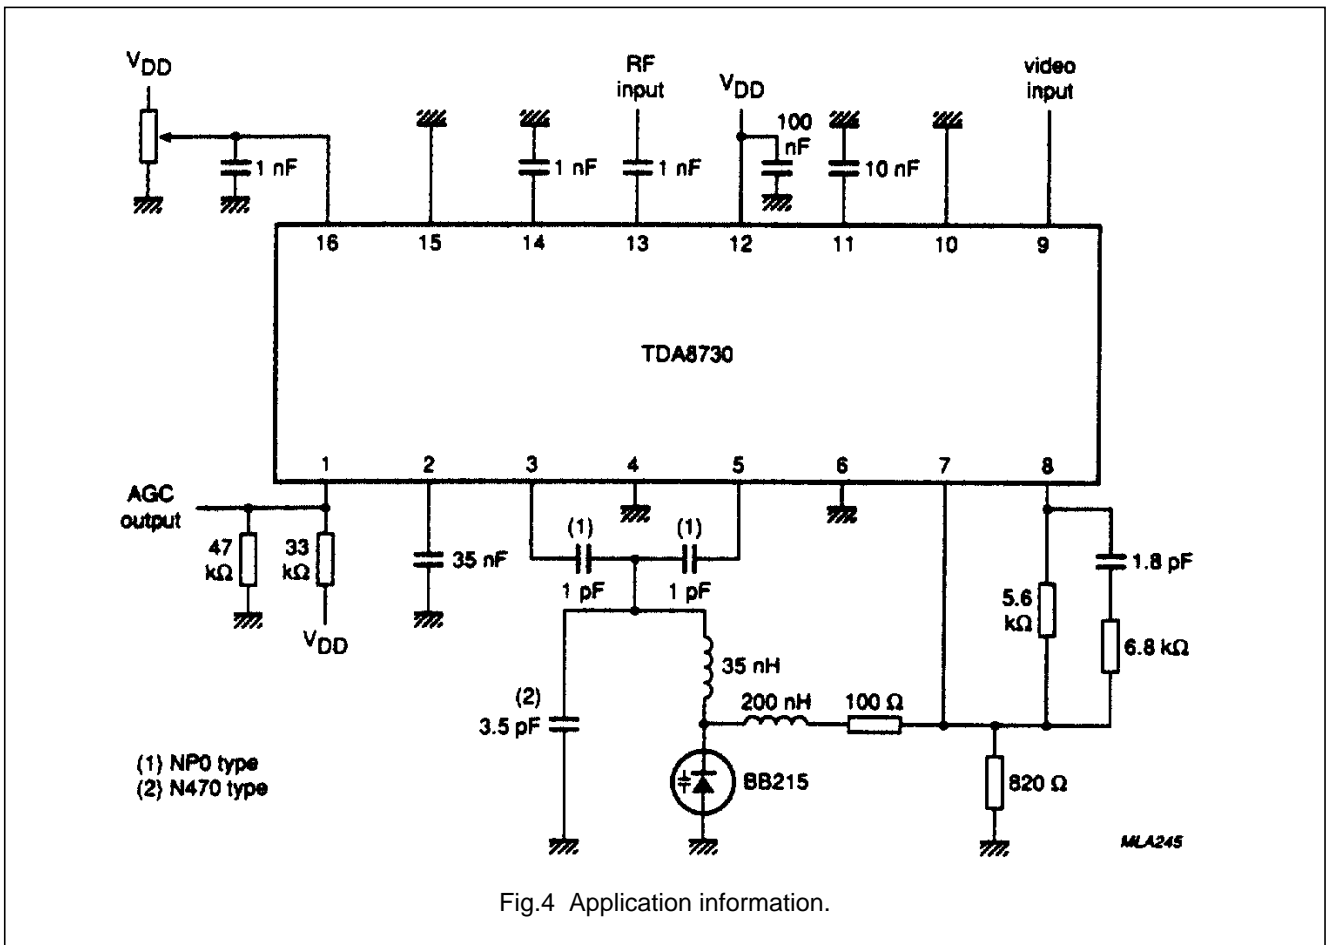

Fig.4 Application information.
CHARACTERISTICS $V_{DD} = 9\text{ V}$; $T_{amb} = 25\text{ }^{\circ}\text{C}$; $f = 480\text{ MHz}$; Input level $70\text{ dB}\mu\text{V}$; measured in circuit of Fig.4 unless otherwise specified.
The current consumption of this application is given by the addition of the supply current of the circuit plus the current consumption of external components in the application given. In this event (Fig.4) the typical current is 80 mA.
- The circuit of Fig.4 is designed for an input level of 70 dB μ V.
However, for levels other than 70 dB μ V the optimum loop filter values will be different from those given in Fig.4.
- In the application circuit of Fig.4 the RF input is asymmetrically driven.